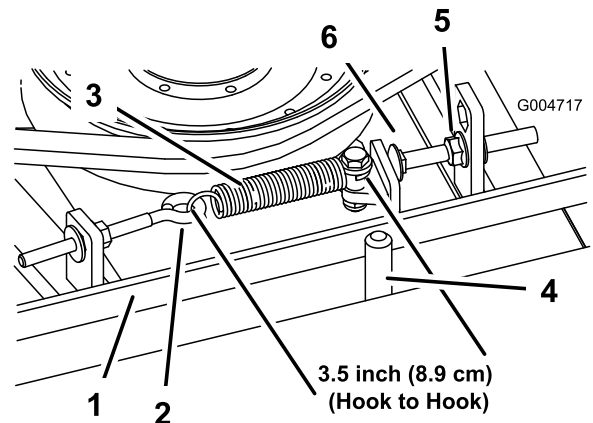

Figure 99
When properly tensioned, the inside measurement of the extension spring (hook to hook) should be approximately 8.3 to 9.5 cm (3-1/4 to 3-3/4 inches). Once the correct spring tension is attained, adjust the stop bolt (carriage bolt) until there is approximately 2 to 5 mm (0.065 to 0.185 inch) clearance between the head of the bolt and the idler arm (Figure 99).
Note: Ensure that the belt is positioned on the spring side of the belt guide (Figure 99).
2. Loosen the eye bolt allowing the removal of the extension spring (Figure 99).
from the belt to release the belt tension (Figure 99).
9. Connect the extension spring (Figure 99) to the eye bolt and tension the belt as follows: